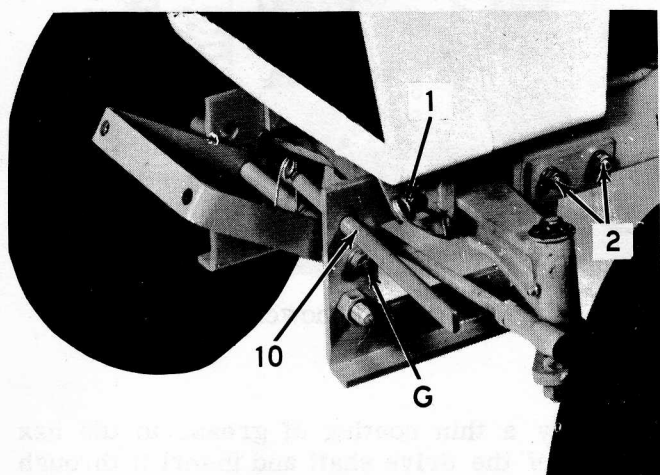
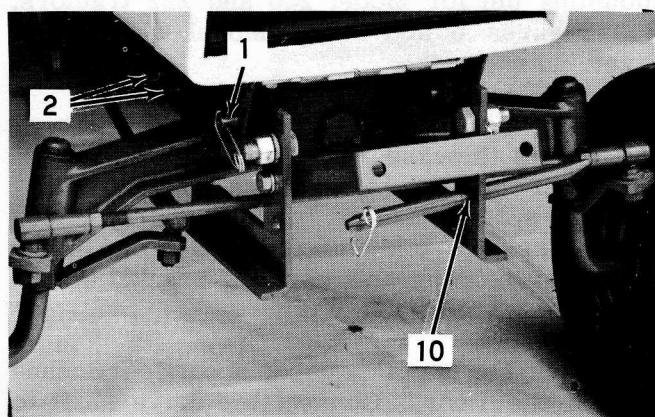

Figure 5. Mounting Bracket for Model 220 and 222 Tractors
Figure 6. Mounting Bracket for Model 442 and 444 Tractors
NOTE Figure 5 illustrates the manner in which the F80 mounting bracket is preassembled for the Model 220 and 222 tractors. Figure 6 illustrates the preassembled F84 bracket for the Model 442 and 444 tractors. To convert F84 brackets for use on Model 220 or 222 tractors remove the long pin, Reference 10 and remove the two large bolts that anchor the lift assist spring bracket. Then remove the lift assist spring bracket, flip it over so the anchor tabs point "down" and re-assemble it in the same bracket holes. Install the two large bolts into the lower holes so the hex flats rest against the anchor tabs. Then use the upper set of holes for assembling the auger housing to the tractor with the long mounting pin.
1. Position the mounting bracket onto the tractor frame as illustrated and insert the two clevis pins through the front mounting lugs in the tractor frame from the inside so the safety pins are fully exposed as shown in Figures 5 and 6.
If the bracket does not fit easily between the front mounting lugs on the tractor, loosen one of the spacer mounting bolts, Reference "G", Figure 5. After the clevis pins are installed, check and tighten both spacer bolts.
NOTE Figure 5 illustrates the location of the mounting pin for Model 220 and 222 tractors. See Figures 6 and 9 for Model 442 and 444 tractors.